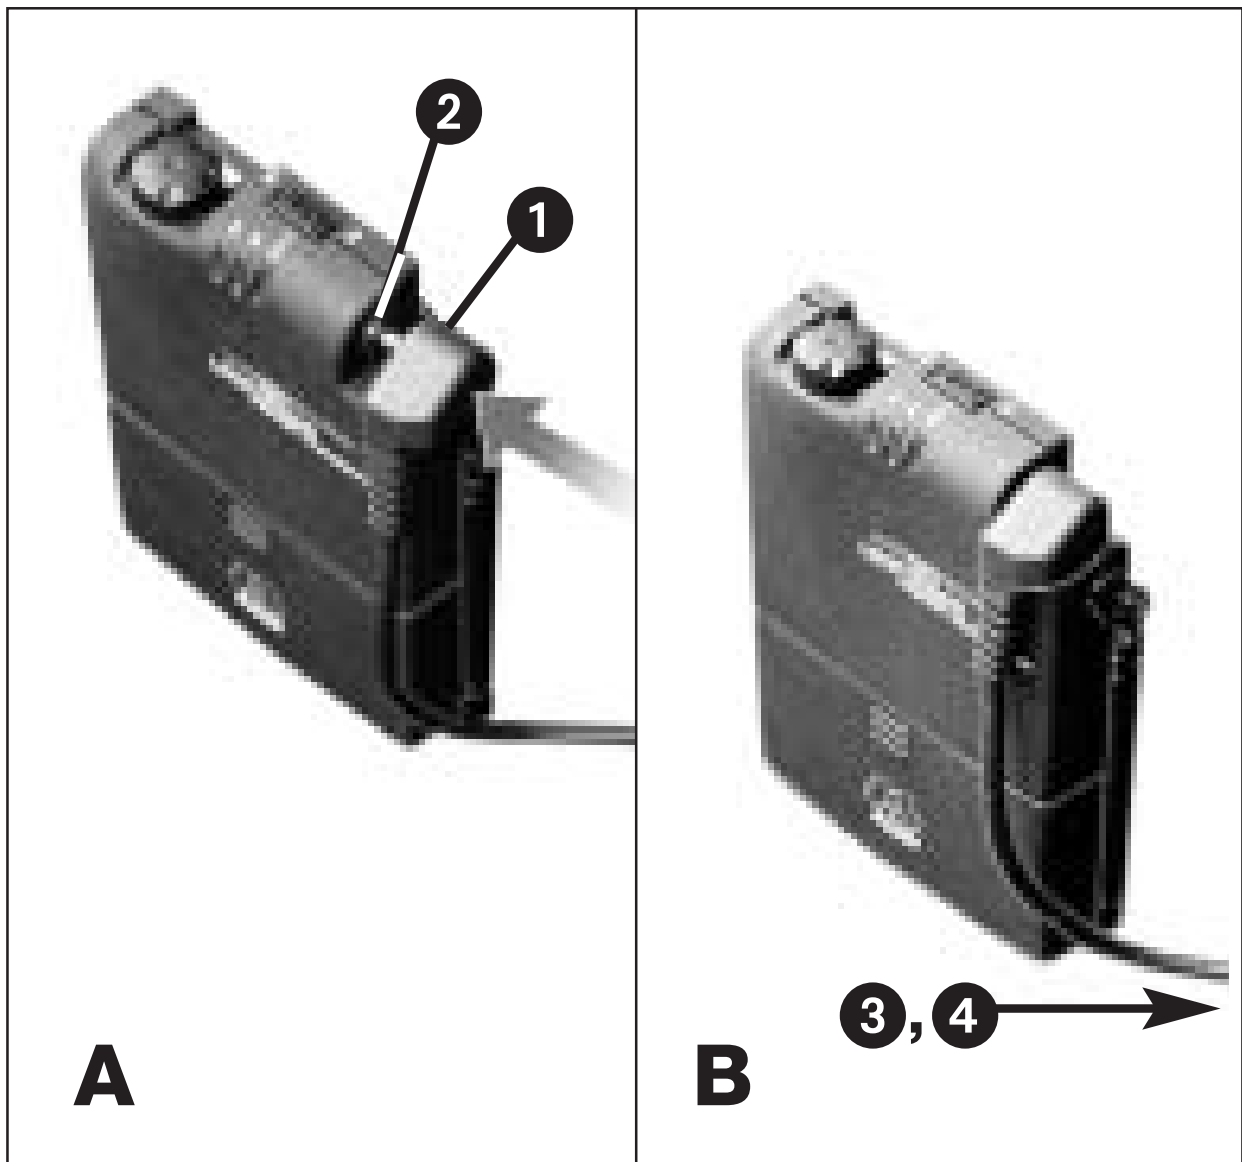

Fig. 7: Audio connection
4.1.1 Audio Connection (Fig. 7)